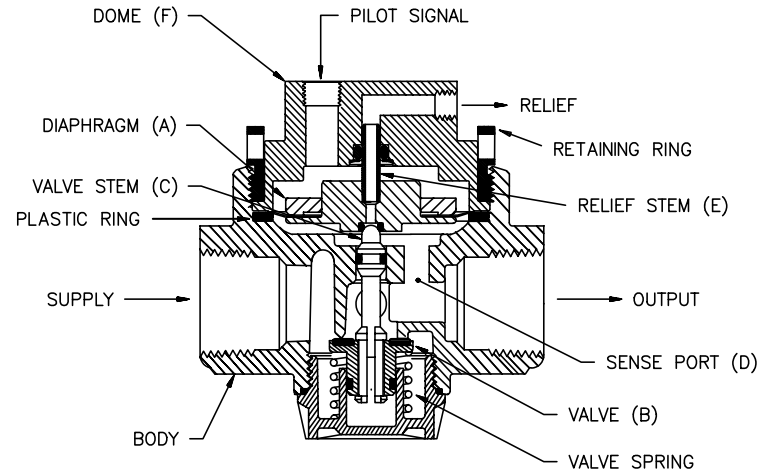

Figure 6
4. Locate the plastic calibration access cap on top of the QBX valve and completely remove it. Located underneath are two adjustment trim pots, Zero "Z" and Span "S". See figure 6 for pots location.